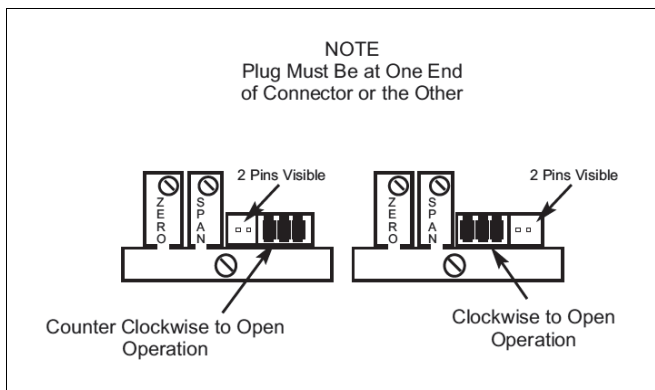

Fig. 49 Plug setting for transmitter operation.
- ❑ The potentiometer cable can now be connected back to the transmitter board terminal pins. The positioning of the terminal plug is done according to valve operation orientation (see Fig. 49). The plug must always be aligned to one end or the other of the five pin terminal on the transmitter board.